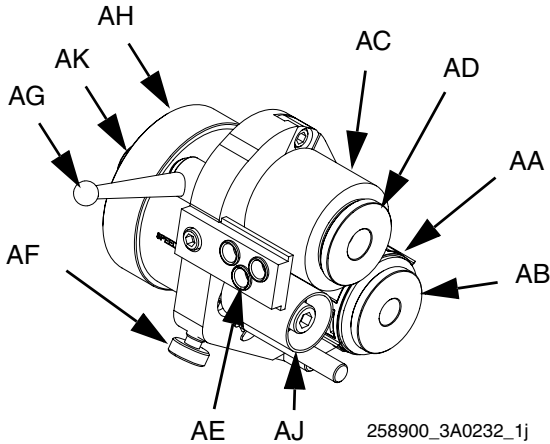

FIG. 17
For part references, see FIG. 17 on this page and cutter parts illustration on page 42.
4. Press and hold motor lock button (AK) to prevent blade cartridge (AA) from spinning, then push in and rotate blade cartridge cap (AB) 90 degrees counter-clockwise to remove. See FIG. 17.
5. Remove the blade cartridge from sleeve (5). If necessary, use a pick to aid in removing the blade cartridge.